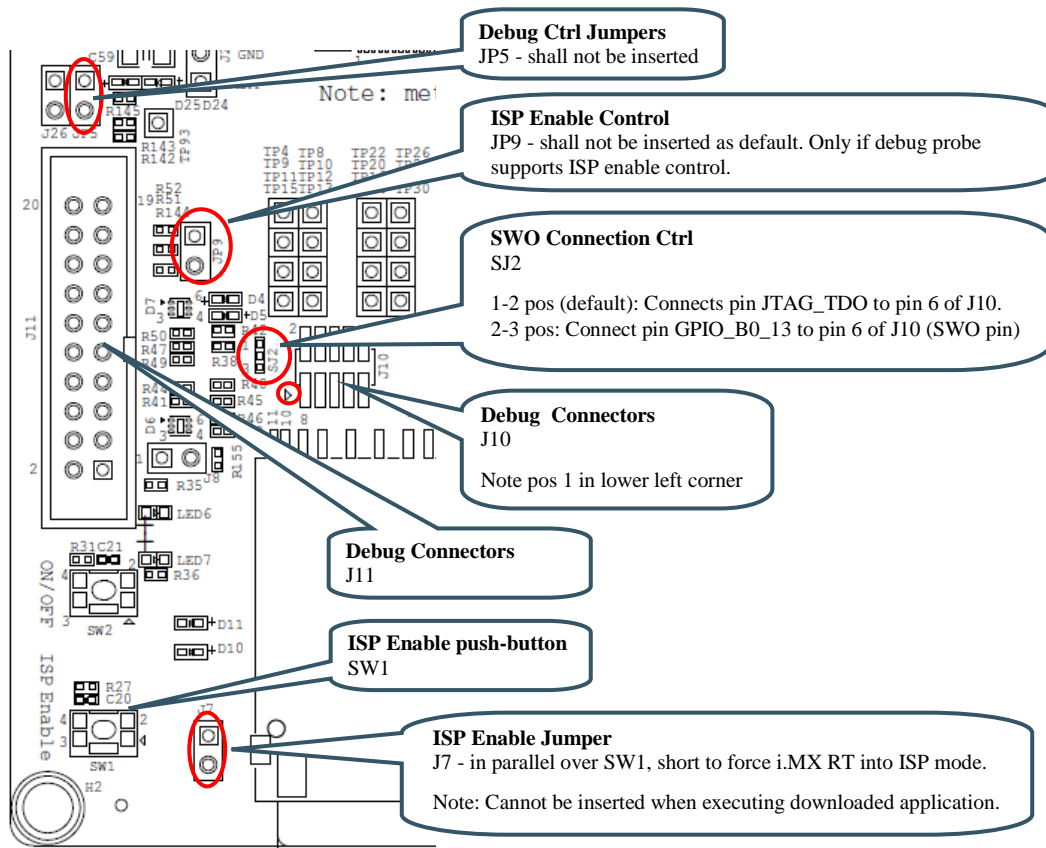

Figure 19 – Debug Interfaces and ISP Enable Control
- J10 – this is a Cortex Debug connector. It is a 2x5 pos, 50 mil pitch connector without a shroud. Be careful when inserting the debug probe cable. Position 1 is specifically marked on the PCB silkscreen. It is located in the lower right corner, see Figure 19 below. The connector supports both the SWD and JTAG interfaces.